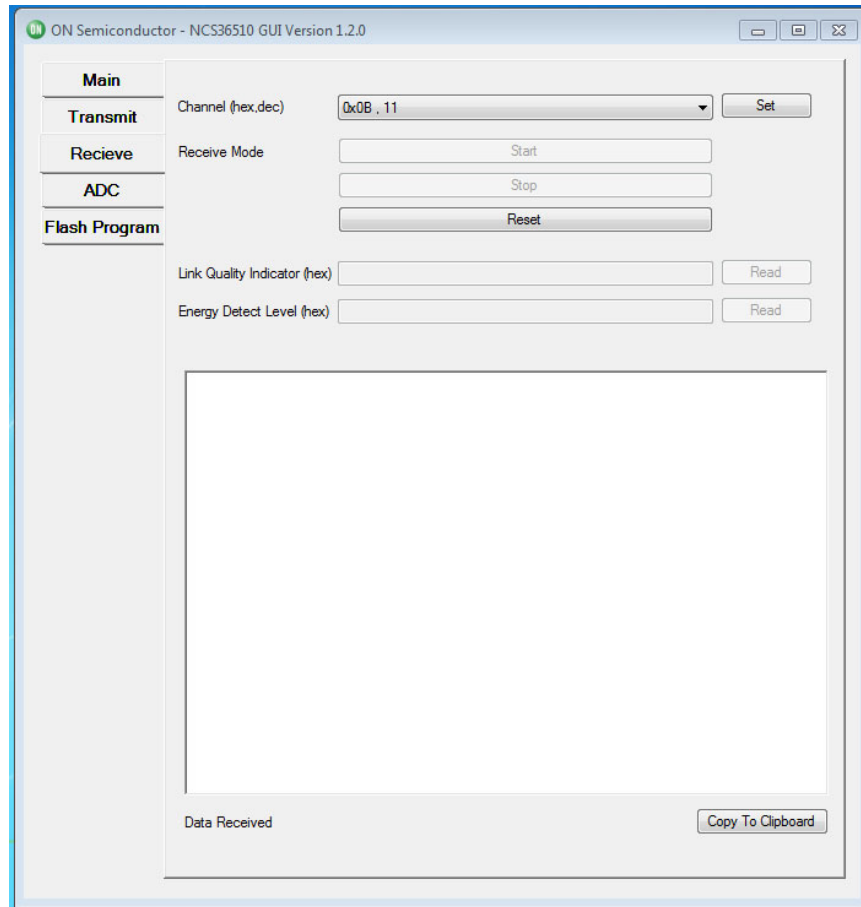

Figure 3. GUI-Receive-Interface
1. From the “Main” tab, select the “Receive“ tab, the “Receive” page will look as shown in Figure 3.